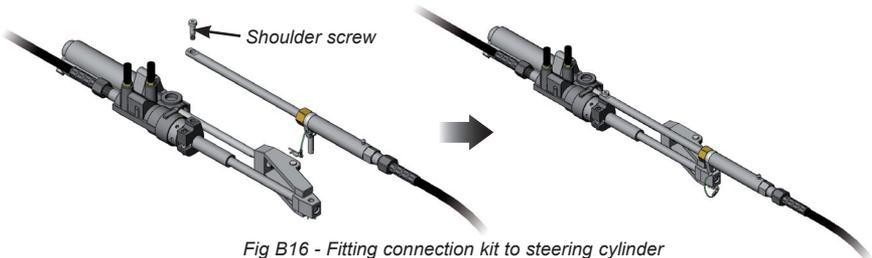

Fig B16 - Fitting connection kit to steering cylinder
- ii) Position the connection kit assembly above the steering cylinder and engage onto the steering cylinder clevis bracket and drive collar as shown (Fig B16). Ensure that the clevis pin is also locking the primary steering cable rod end into the clevis bracket*.